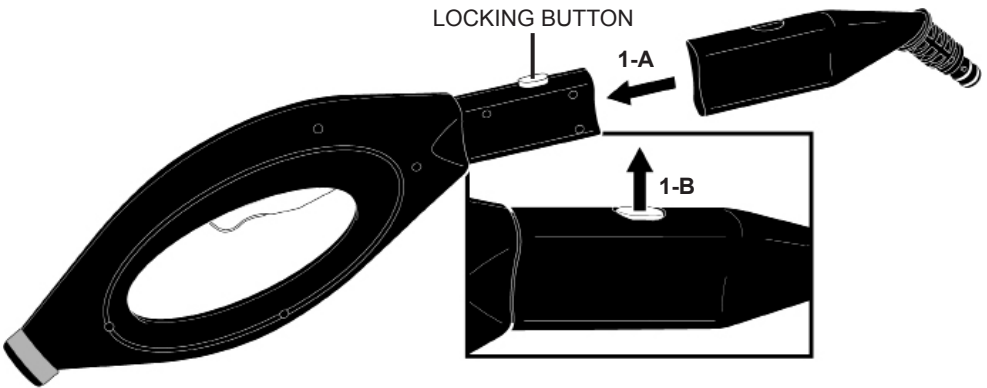

FIGURE 1
1. Align Jet Nozzle with Main Steam Nozzle as shown (FIGURE 1-A).
2. Press down on the locking button located on Main Steam Nozzle. While continuing to hold button down, slide Jet Nozzle onto Main Steam Nozzle. Push Jet Nozzle over button, and continue to push it on unit button snaps through hole on Jet Nozzle (FIGURE 1-B).